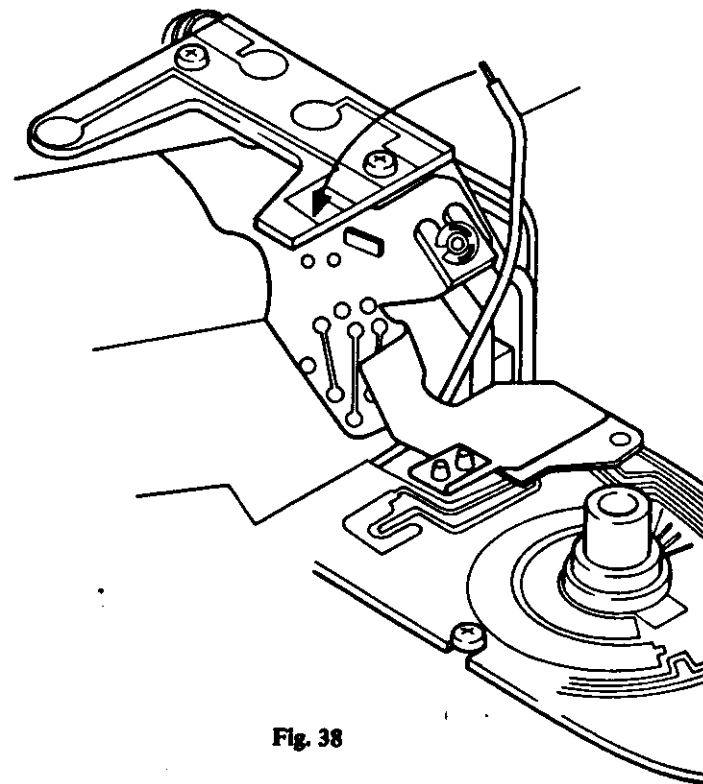

Fig. 38
- 3) Fix BROWN LEAD WIRE as shown in Fig. 38.